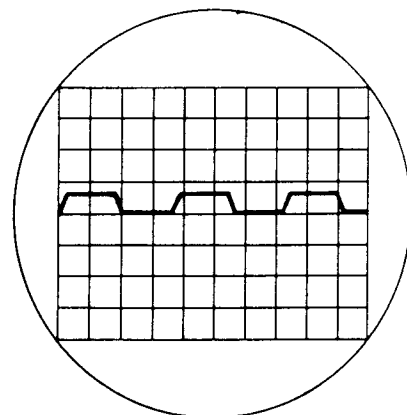

Fig. 11
11. Select **volts/power** **400Hz filter** and **sine wave** input at a **frequency** of 1 KHz and adjust **oscillator level** for 100W output. Select **1Ω load**. The output should clip equally on both halves of the waveform as shown in Fig. 11.